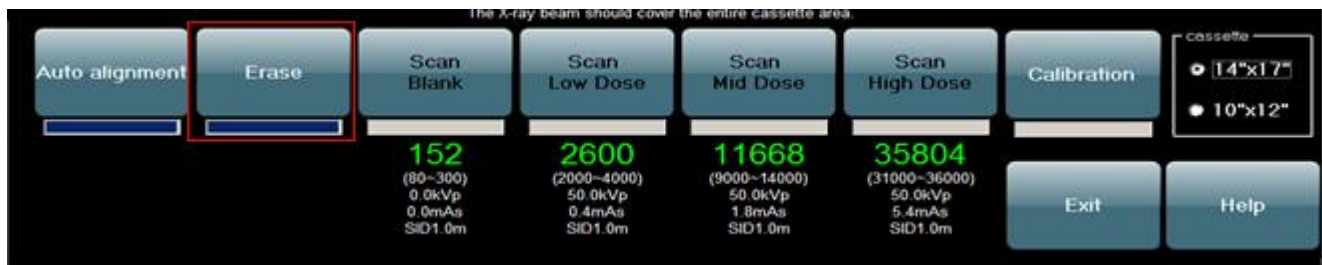

Figure 9
- › Left click on Erase; this erases the cassette prior to calibration. *Figure 9*